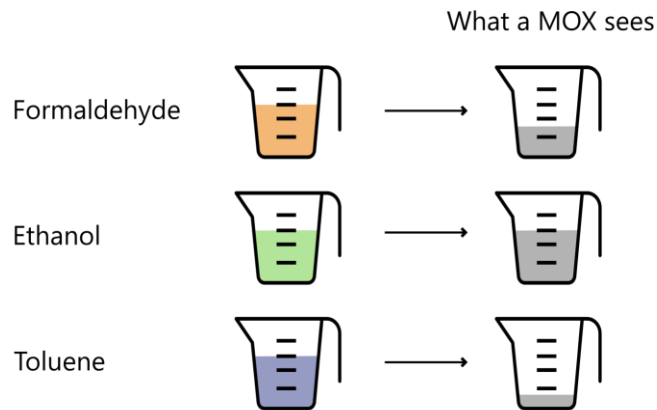

Figure 3. Schematic representation of the varying selectivity of a MOX sensor towards different VOCs.
- A MOX sensor has typically **unknown** and **different selectivity** towards individual VOCs. While it is more selective towards certain VOCs, it can hardly identify them, as shown in **Figure 3**.